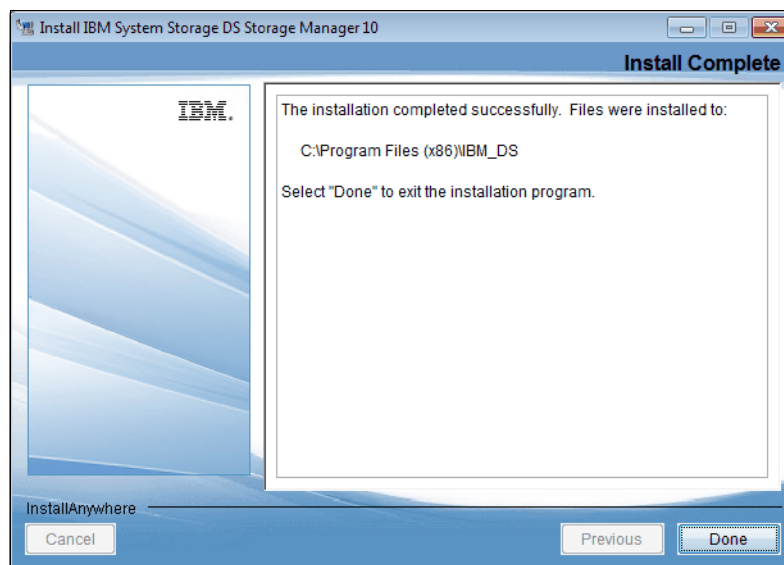

Figure 2-5 Installation complete
5. After the installation, you should see the **Installation Complete** as shown in Figure 2-5.